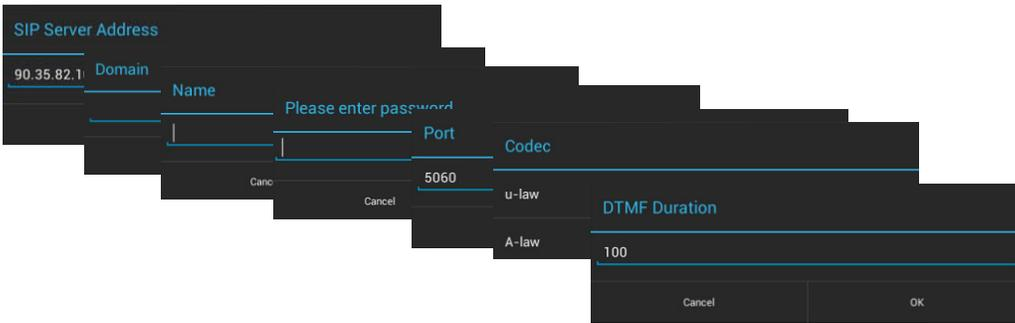

**FIG. 49** SIP page (Optionally available on MD-702 and MD-1002 models)
The *SIP* page (FIG. 49) controls the configuration of settings for SIP communication with the panel.
1. In the *SIP Options* page (FIG. 49), press **SIP Server Address** to enter the IP address of the SIP Server in the *SIP Server Address* window. Press **OK** to save changes and close the *SIP Server Address* window.